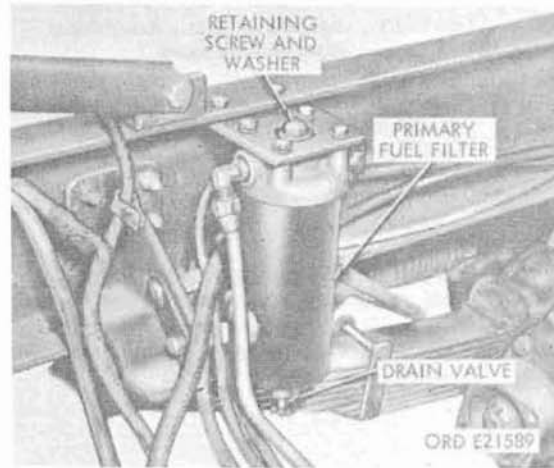

Figure 127. Primary fuel filter
- (1) Open drain valves on all fuel filter (fig. 127) and drain fuel into an approved container.